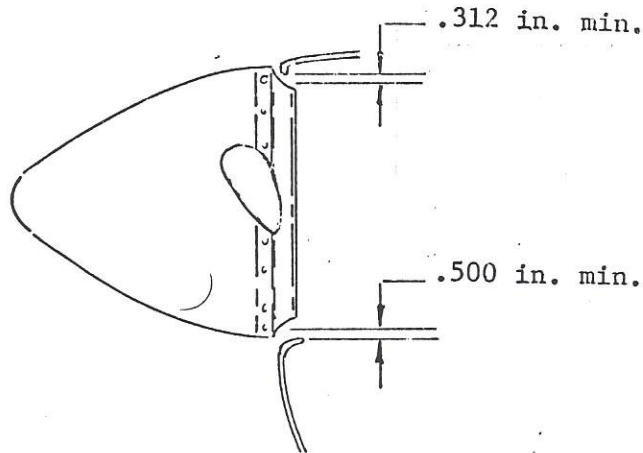

Figure 1. Backplate and Forward Cowl Clearance Dimensions.
NOTE: If the static clearance between the backplate and forward cowl now falls within the limits shown on figure 1, install new cotter pins and disregard items 4 thru 6 of this section.